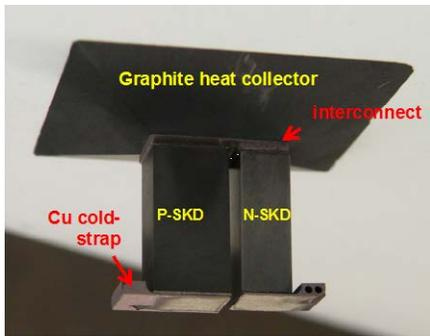
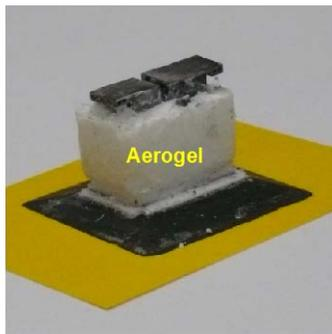
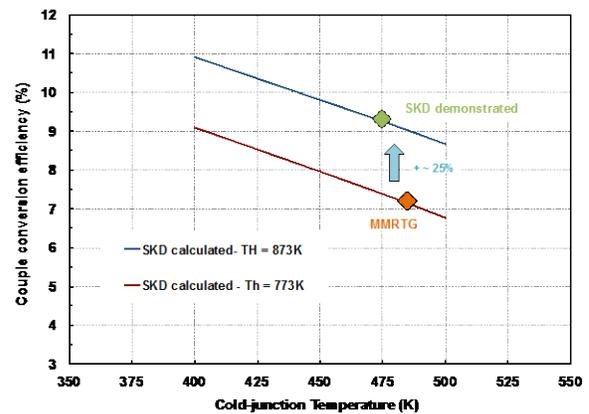

Figure 3. SKD couple with a heat collector.
Figure 4. SKD couple encapsulated in aerogel.
Figure 6. Predicted and measured conversion efficiency for SKD couples. The conversion efficiency for PbTe/TAGS MMRTG couple is shown for comparison.
**Couple development status:** SKD couples have been fabricated using a combination of brazing and diffusion bonding techniques. Figure 3 shows a photograph of SKD couple fabricated at JPL. Figure 4 shows the same couple encapsulated in aerogel. Several couples have been tested under prototypic thermal conditions. Figure 5 shows the predicted and measured power output, total couple voltage, and p- and n-leg voltages. The agreement between the calculated values (based on the measured TE properties and hot- and cold-junction temperatures) is excellent. The corresponding couple conversion efficiency when operating at a hot-junction of 873K and a cold-junction of 473K is about 9.3%. Figure 6 shows the both the calculated and measured conversion efficiency for SKD couples as a function of hot- and cold-junction temperatures. The conversion efficiency for PbTe/TAGS MMRTG couples is shown for comparison. An increase in conversion efficiency of about ~25% can be achieved for SKD couples (at  $T_h = 873K$ ) relative to MMRTG couples. Life testing of selected SKD couples is in progress at JPL to further assess the potential of this technology in the long term.